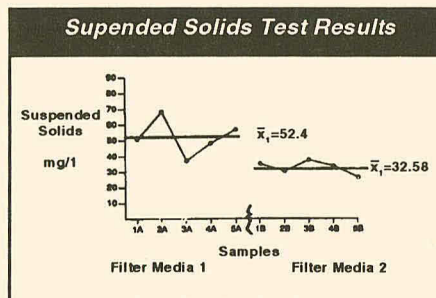

Figure 9
(3) **Collect New Data:** Obtain filtrate samples, measure filter cake thickness, and record index cycle times following the same methodology and under the same system conditions as in Step (1) above, with the proposed alternative media in operation.
(4) **Determine the Significance of Results:** Because of time constraints typical in evaluating filter media, assumptions are necessary which apply results from a short-term evaluation to long-term expectations for the filter system(s) studied and other similarly designed and applied systems in the manufacturing facility. It is therefore important to determine if the results achieved in the short-term comparative evaluation are significant enough to justify a change in filter media. Statistical methods can be appropriately applied for this purpose. The use of the t-statistic for determining statistical significance can be applied to quantitative data collected. Graphing numerical data in time-ordered sequence can readily highlight shifts or trends as shown in Figure 9. The operational significance of these results also requires engineering judgment and knowledge of application requirements.